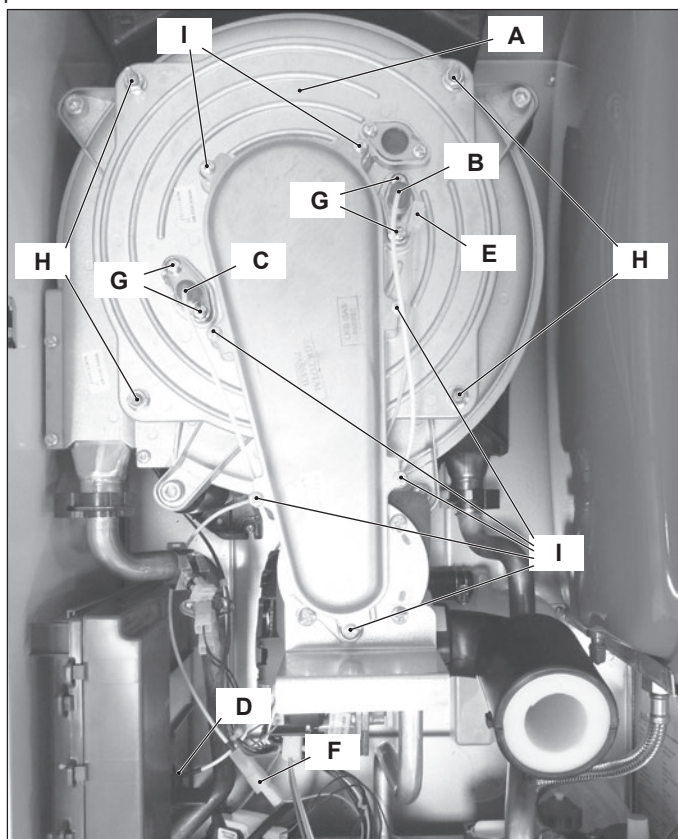
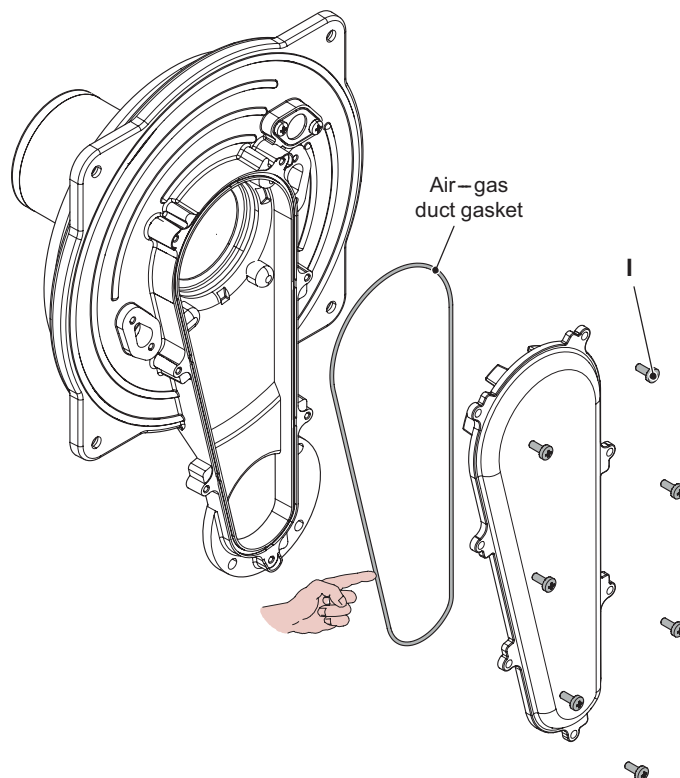
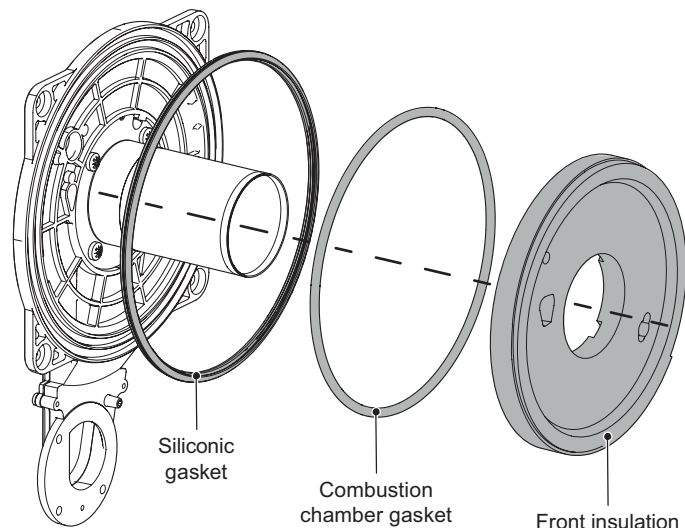

Figure 18.1
Figure 18.3
Figure 18.4
- 2 Disconnect the ignition electrodes connector "D" and the earth wire "E" (Figure 18.1) and disconnect the detection electrode connector "F".
- 1 Unscrew the screws "I" (Figure 18.1 - Figure 18.3) and remove the Air-gas duct lid.
After any periodical servicing or disturbance the combustion chamber silicon seal (Figure 18.4) and the Air-gas duct gasket (Figure 18.3) must be fully inspected and replaced at the discretion of the service engineer.
- 2 Remove the front insulation panel by sliding it forward (Figure 18.4).
- 3 Unscrew the screws "H" (Figure 18.1) and remove the cover of the combustion chamber.